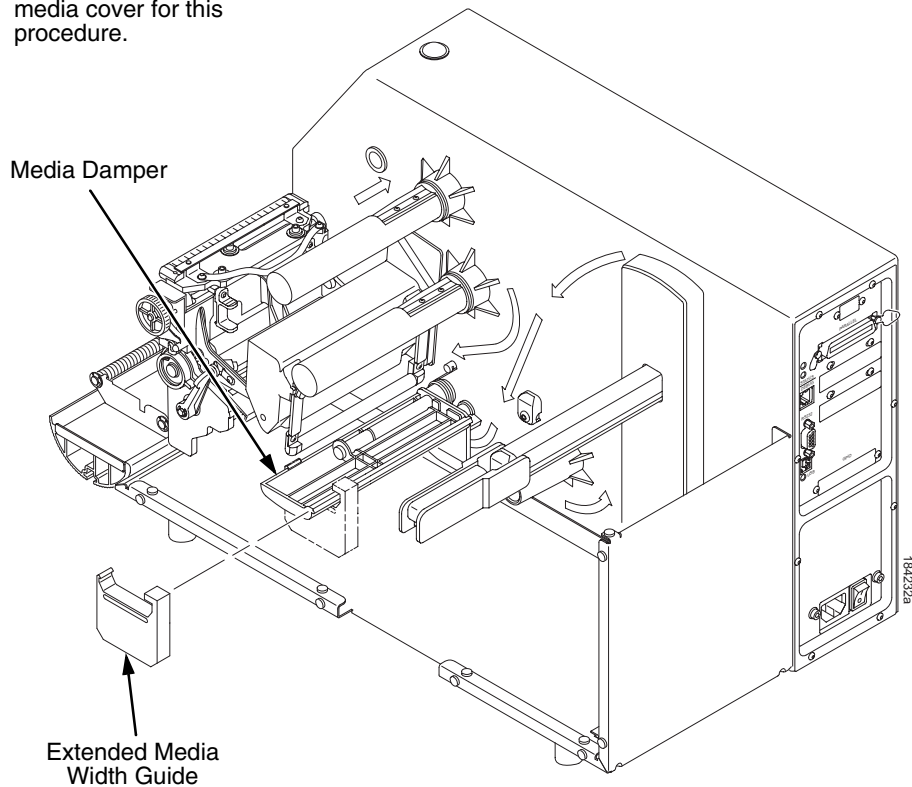

Figure 11. Replacing the Media Width Guide
18. Replace the standard (blue) media width guide on the media damper with the extended media width guide (Figure 11).